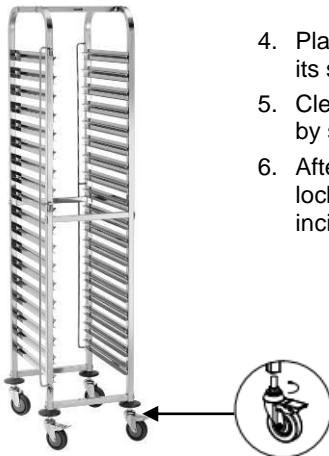

Fig. 3
5. Clearing trolley may be levelled with use of castors by screwing or unscrewing them (**fig. 3**).